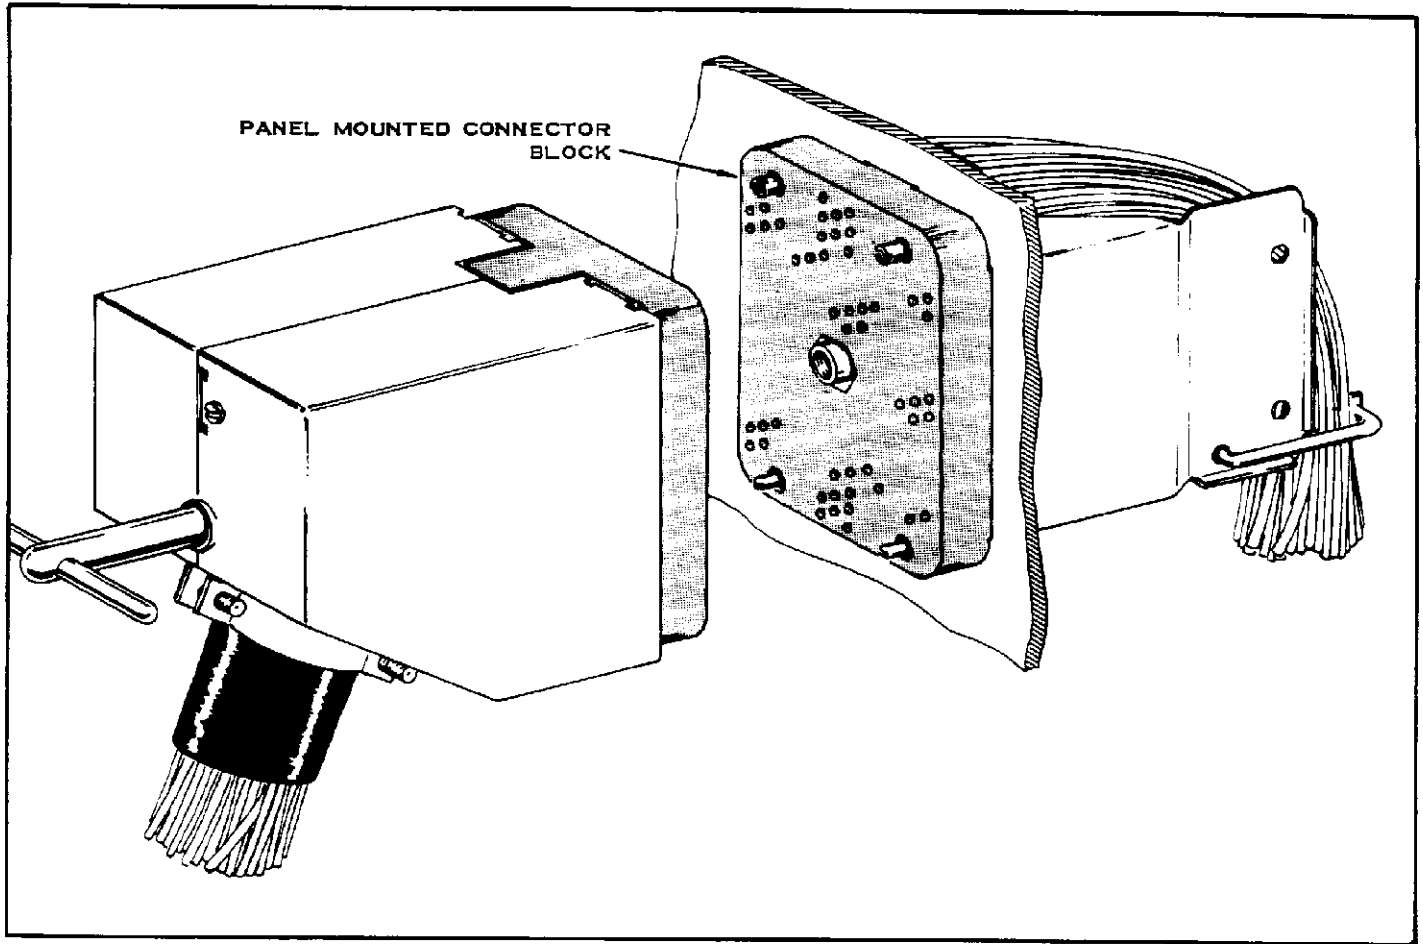

FIGURE 8
- (b) Mount Block to Panel using #4-40 machine screws or guide pins and sockets. A panel mounted Connector Block is shown in Figure 8.